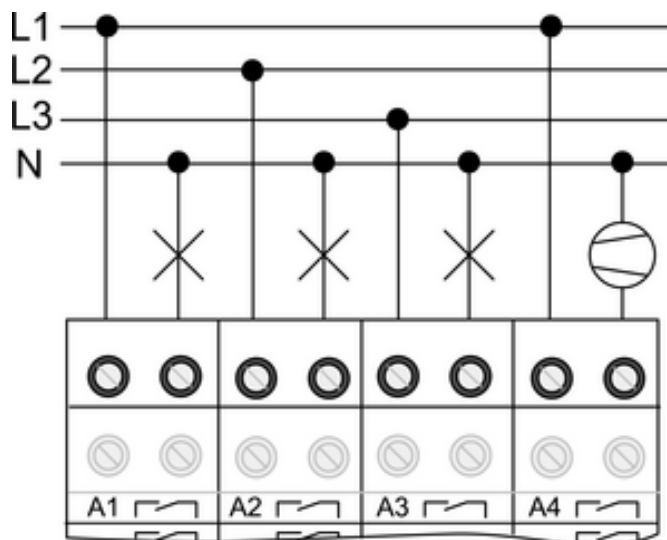

Figure 4
- Connected switched loads (figure 4).